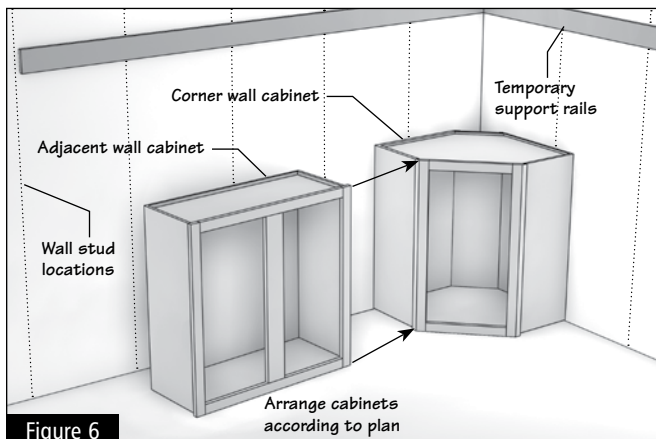

Figure 6
- 2.3** One by one, align the remainder of the cabinets and fillers in position on the floor using the plan provided by the designer. (Figure 6)